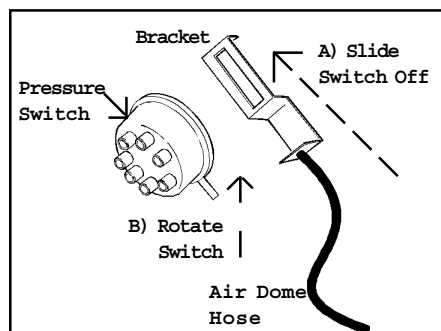

Figure 6-2
The water pressure switch is located in the console area and mounted to a galvanized bracket secured to the rear panel of the console. The air dome hose is inserted into the lower end of the mounting bracket (**Figure 6-2**). The nipple of the pressure switch is inserted into the end of the air dome hose which is secured by the lower mounting bracket.
3. Slide the pressure switch up on the mounting bracket, away from the air dome hose. The mounting bracket for the pressure switch is secured to the rear panel of the console (*See Figure 6-2*).